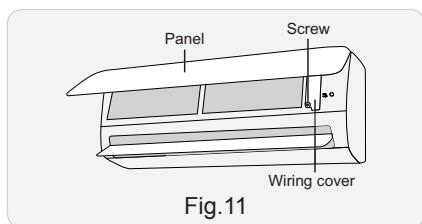

Fig.11
(1) Open the panel, remove the screw on the wiring cover and then take down the cover.(As show in Fig.11)